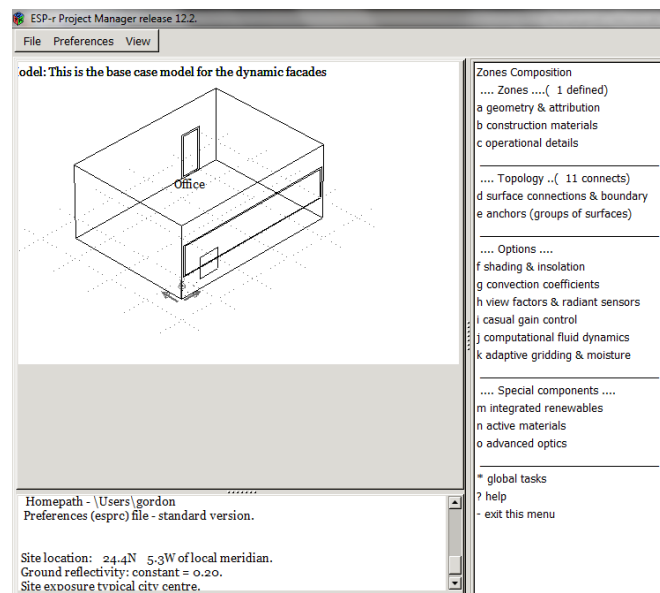

Figure 3
**Step 3:** Once in the composition menu click *>active materials*(figure 3)